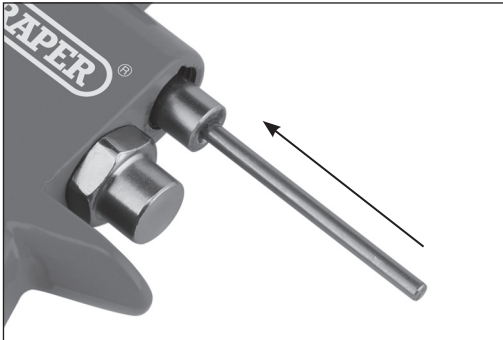

Fig. 21
- b. Insert the fluid needle point-first into the chamber through the back of the spray gun (Fig. 21).